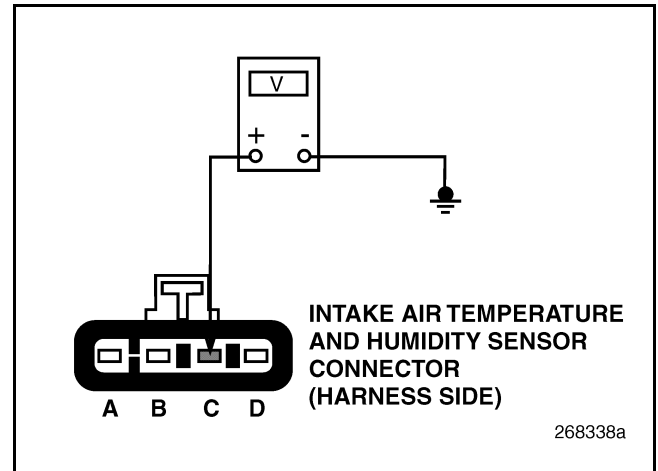

Figure 324
4. Measure the voltage between IATH Sensor harness connector pin C (ground line) and a good ground (see Figure 324).